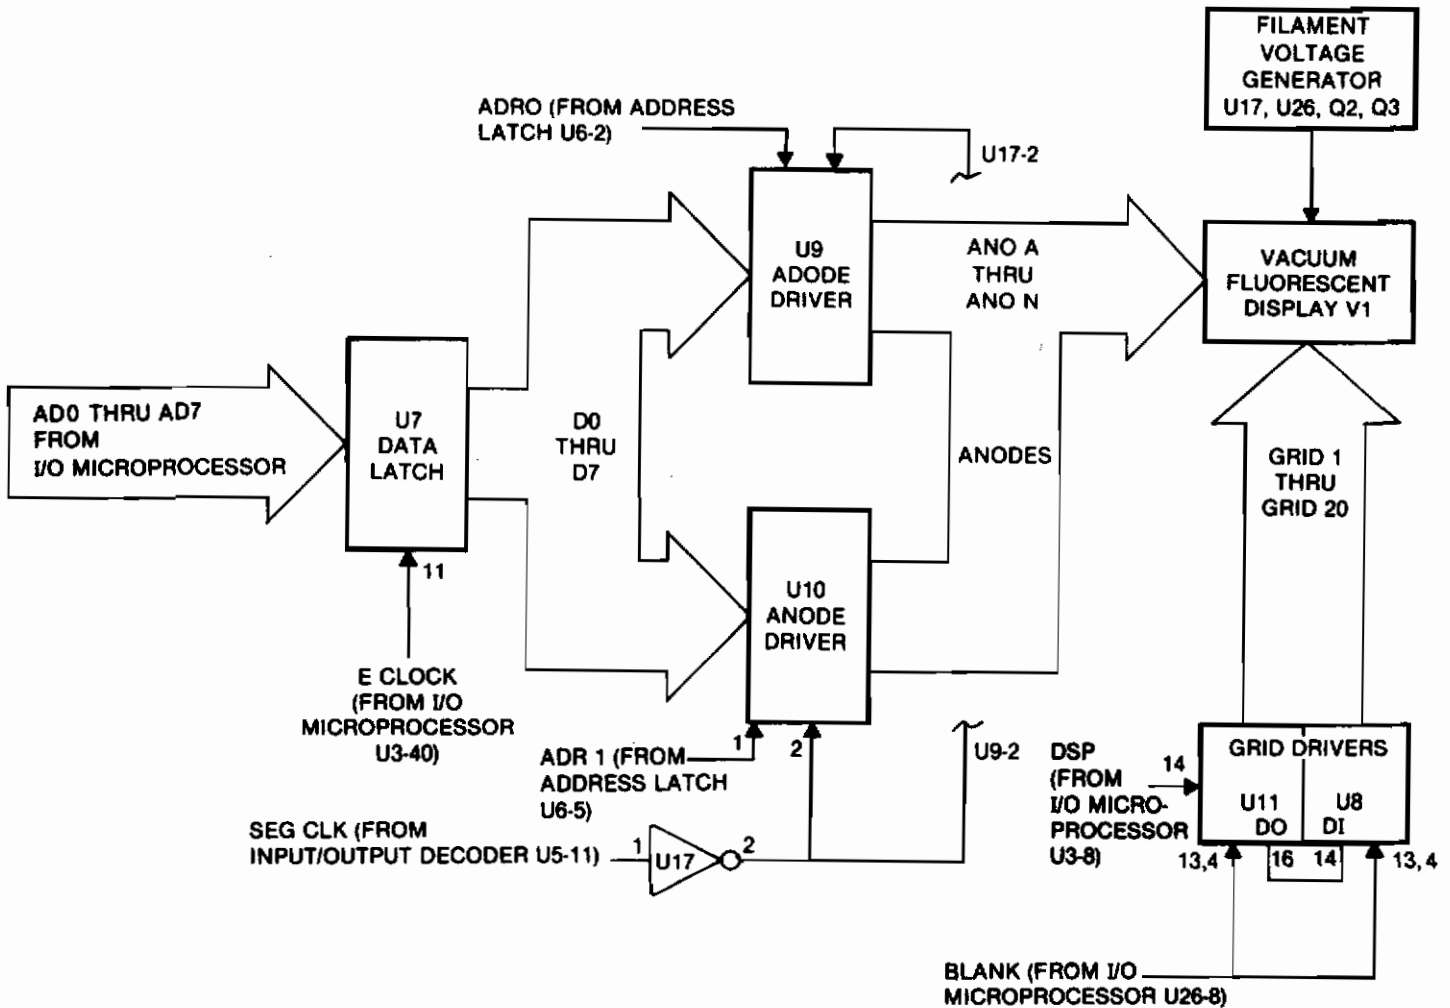

Figure 4-22. Display
The following describes the data flow sequence required for turning on the grids (ref: figure 4-22). First,
Synchronous with each grid pulse is the data required to turn on the proper anodes, thus lighting the necessary character. The anode data flow through the display circuit is shown in figures 4-22 and 4-24. The E clock from the I/O microprocessor U3 pin 40 latches the data (AD0-AD7) into the data latch U7. ADR0 and ADR1 are address lines which select one of two anode drivers U9, or U10. After the anode driver is selected, data is strobed into U9 or U10 by the SEG CLK from the I/O decoder U5. The data from the anode drivers is presented to the fluorescent display when the output enable OE line goes low, blanking the display. Each of the 16 anode outputs controls one of the 16 fluorescent display segments. When the output goes high (+44V) the segment is turned on. When the output goes low (0V) the segment is turned off.
The filament voltage generator U26, U17, Q2 and Q3 (ref: figures 4-22 and 4-25 and Display/Logic schematic sheet 2, coordinates B3) supplies the fluorescent display with a 6 Vp-p square wave that is offset +5V dc. Input to the filament voltage generator is the buffered E clock (BE) from U26 pin 3 (ref: schematic sheet 1, coordinates D5). Push-pull driver, Q2 and Q3, drives the isolation transformer T2.